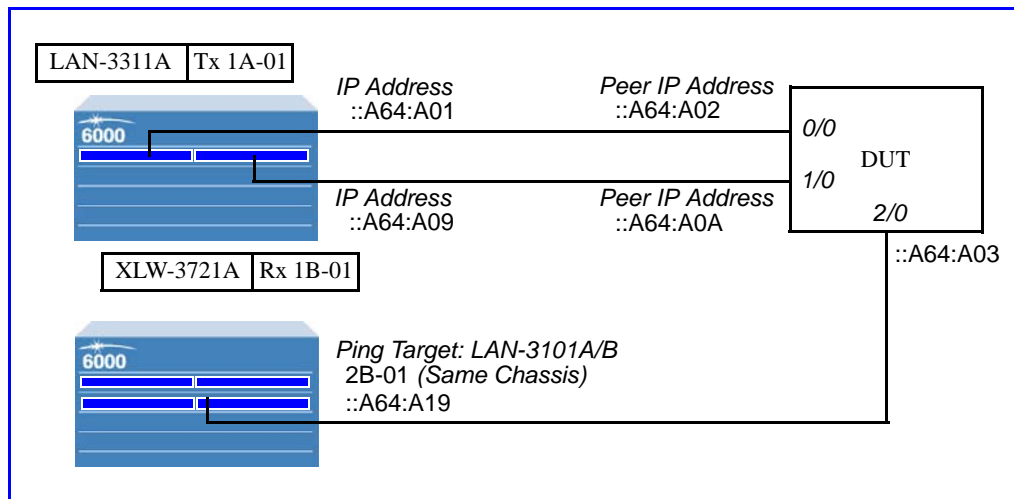

Figure 8-35. “Card Topology” IP Address Configuration
The following procedure uses the *IPv6* tab to set Layer 3 addresses and options. (Refer to *Figure 8-35* as a guide to setting the IP addresses for the DUT and LAN-3311A ports.)
- 2 Refer to Figure 8-35 on page 377 for the IP address information for port 3B-01 in this example. You may need to add a gateway IP address, depending on the test configuration.